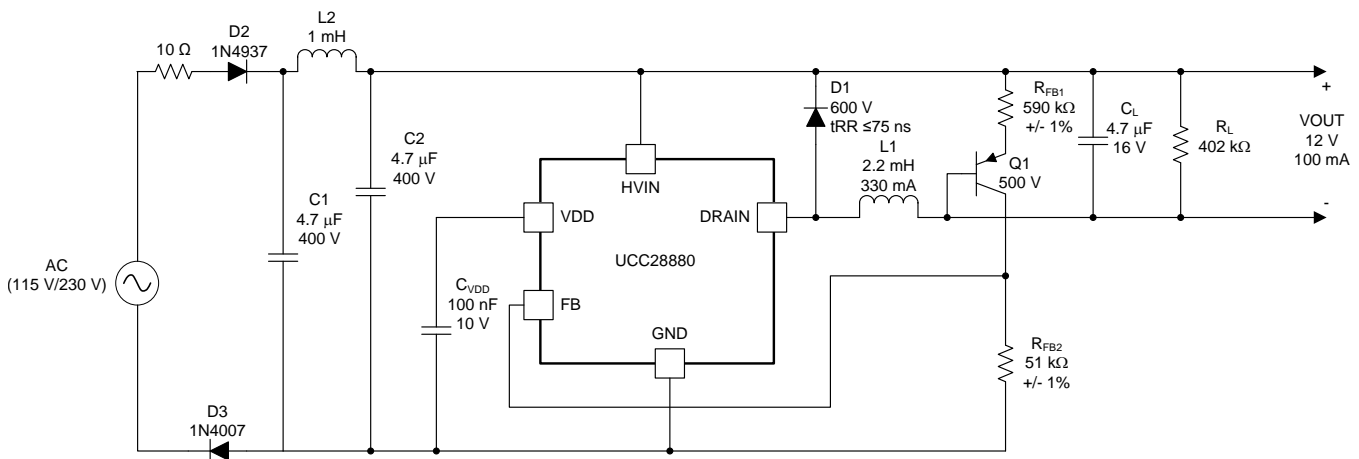

Figure 14. Universal Input, 12-V, 100-mA Output Low-Side Buck
Figure 14 shows a typical application example of a non-isolated power supply, where the UCC28880 is connected in a low-side buck configuration having an output voltage that is negative with respect to the positive input voltage (VIN+). The output voltage is set to 12 V in this example, but can easily be changed by changing the value of RFB1. This application can be used for a wide variety of household appliances and automation, or any other applications where mains isolation is not required.
- $C_{BULK(min)}$ is minimum value for the total input capacitor value (C1 + C2 in the schematic of Figure 14).